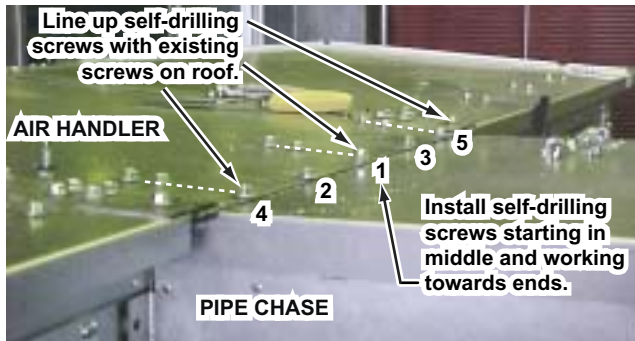

FIG. 6 – PIPE CHASE TO ROOF INSTALLATION
- Starting at the center, and working toward each end, run self-drilling screws down through the air handler overhang into the top of the pipe chase through the gasket. Use caution not to strip the 20-gage housing with the screws. Line up self-drilling screws with double row of screws on top of unit raceway, plus one spaced evenly between each (see Fig. 6) (No caulking required here.)